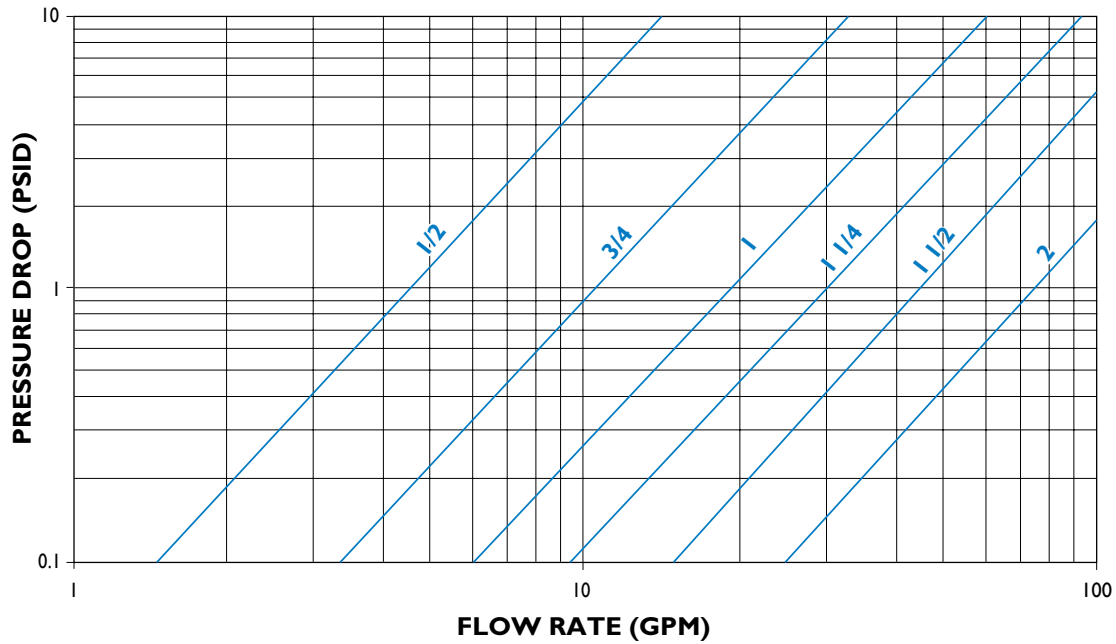

FIGURE 1
*Multiply values obtained from figure 1 thru 2 by the appropriate values shown below
- A)** Using figure 1 the pressure drop is determined to be 0.9 psig with IFC's standard screen.
- 1) Using figures 1 or 2 determine the pressure drop (P1) through the strainer with water flow and standard screens.
- 4) Using chart #2 multiply P3 by the appropriate Component Factor (CF) to get P4.
- 6) Multiply P4 by the appropriate Body Loss Factor (BF) in chart #3 to get P6.
* Multiply values obtained from figures 1 thru 2 and charts #1, #2 and #3 (if used) by the appropriate values shown below